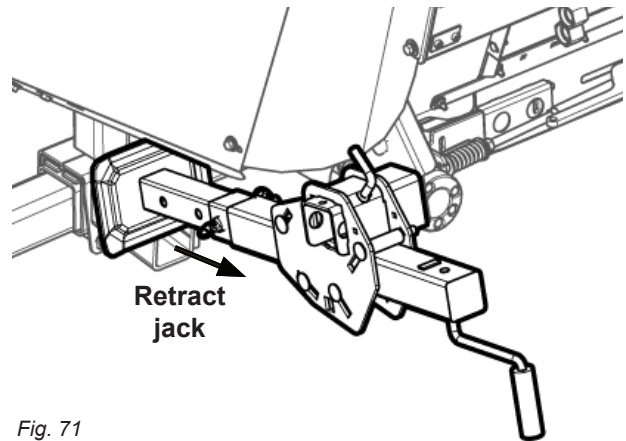

Fig. 71
6. To convert the hitch from storage to transport mode, remove the safety chain from the storage stub. Release the pressure on the jack, loosen the hitch clamp, and slide the jack off of the stub. (“Fig. 71”)